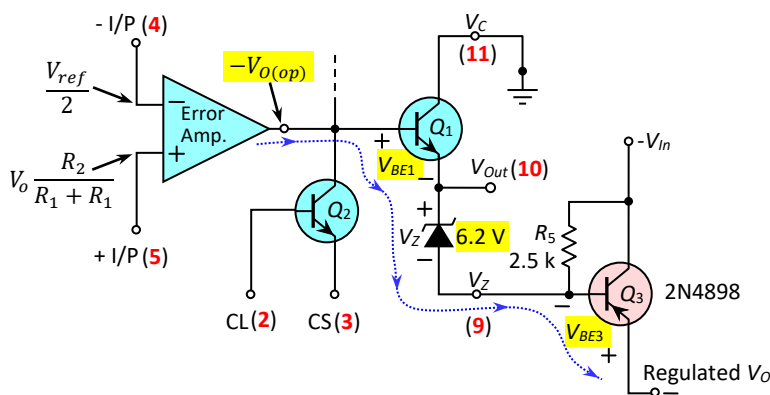

Fig.18-60: Output stage of the negative voltage regulator of Fig.18-47 with internal components of LM723 IC
59. Here, $-V_i$ is the unregulated negative input voltage and V_o is the regulated negative output voltage. The value of $|V_i|$ should be always greater than $|V_o|$. Transistor Q_3 is the series-pass transistor which is driven by V_Z terminal (pin-9) of LM723. To understand the operation process, the output section of this circuit is redrawn in Fig.18-60 showing the internal components of LM723. From this figure, we find that the voltage to the inverting terminal of the error amplifier will be $-V_{ref}/2$, and that of the non-inverting terminal will be $-V_o \times R_2/(R_1 + R_2)$. But the error amplifier will adjust its output voltage $-V_{O(op)}$, until these two voltages are equal. When these two voltages are equal, that is, when